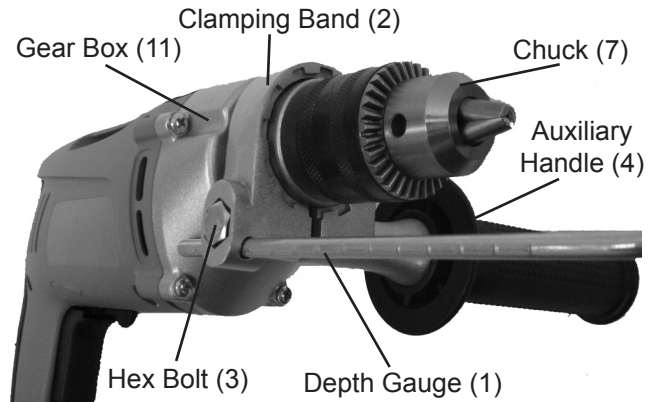

Figure 1
1. Insert Clamping Band (2) over gear housing behind Chuck (7) with required handle orientation. Slightly rotating Clamping Band will enable the two tabs on housing to align with recesses around clamp face. Pull clamp tightly against housing and turn Auxiliary Handle (4) to tighten clamp. See Figure 1.
2. Depending on whether left or right-handed use is needed, turn the Clamping Band around until the Auxiliary Handle (4) is on the correct side.
3. Securely tighten the Hex Bolt (3) until Auxiliary Handle is fastened securely onto Drill.